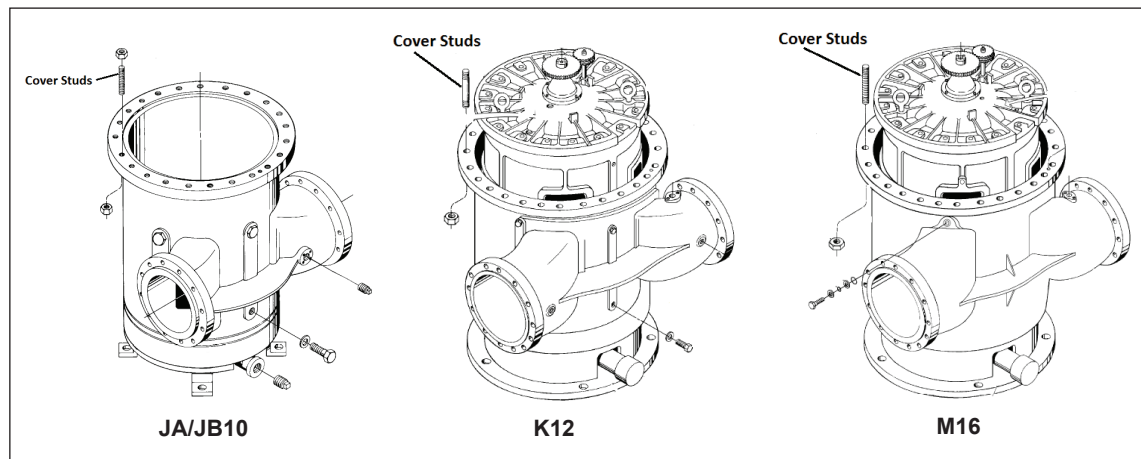

Figure 64 – Cover studs
- Install cover studs (see Figure 64). Torque studs per Tables 4, 5, and 6.